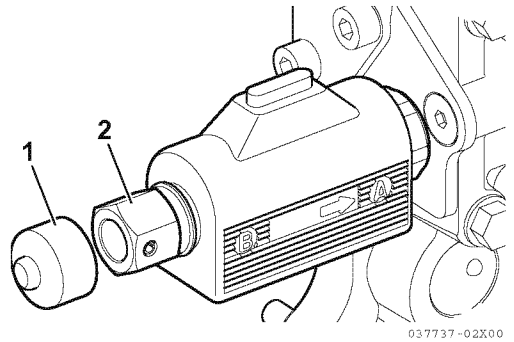

Figure 6
1. With the engine(s) not running, remove cap (1, Figure 6), and emergency nut (2, Figure 6).